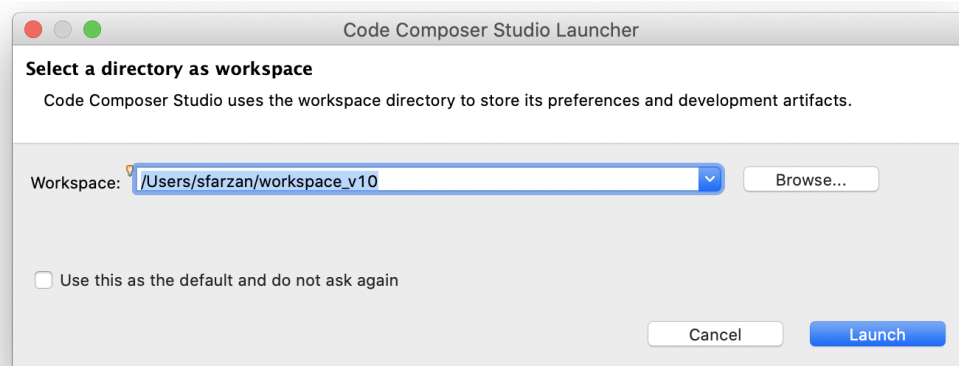

Figure 4: Select a directory as workspace.
- A new window may pop up which asks you to enter a path for the workspace. All the projects and files that you create from here on will be saved at this location. Enter an appropriate address/location. It is recommended to create a new dedicated folder which will serve as your workspace for this course (Figure 4).